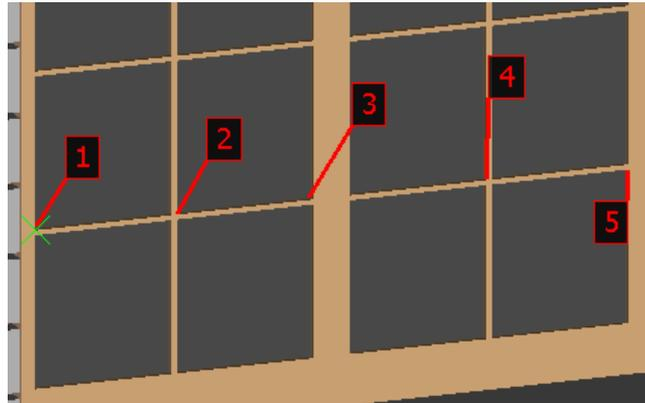

Figure 3-41 The cursor placed at point 1
2. Place the cursor on the point **1** and click when the snap to vertex cursor appears, as shown in Figure 3-41.